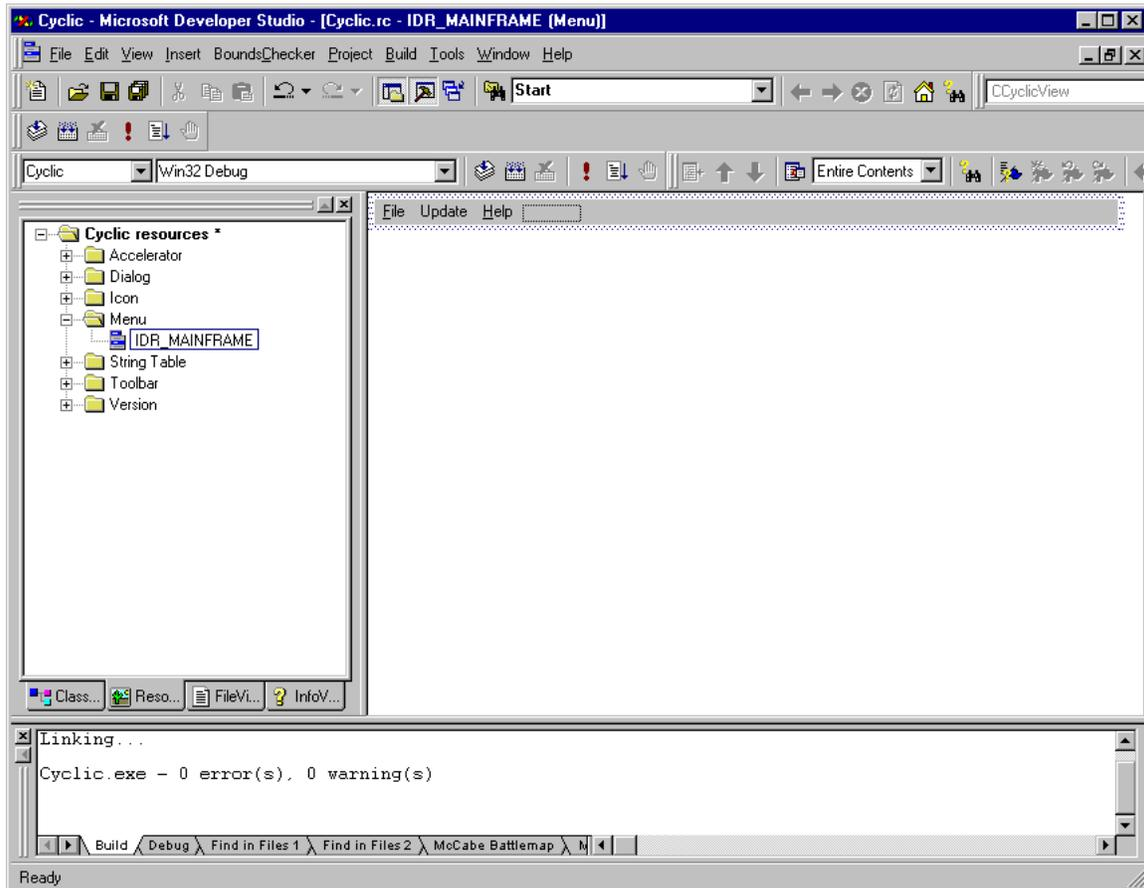

Figure 34 Cyclic Application with Update Menu
20. Select the empty menu frame and drag it so it is between the File menu and the Help Menu. While the Frame is still selected type the word **Update**. When you begin typing the Properties dialog will appear. When you are done typing the word **Update** close the Properties dialog. Your menu bar should look like the one in Figure 34.